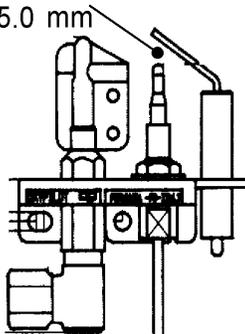

Fig.7. Pilot ignition unit
Sparks should be seen tracking from the electrode pin to the thermocouple tip (see figure 7).
- b) Check spark gap between electrode wire and thermocouple tip (see figure 7).